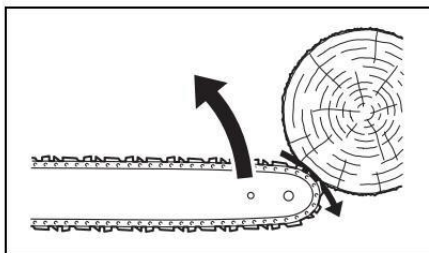

Fig 1
- In some cases, tip contact may cause a lightning-fast reverse reaction, kicking the guide bar up and back toward the operator (this is called a rotational kickback). Pinching the saw chain along the top of the guide bar may push the guide bar rapidly back toward the operator (this is called a linear kickback) (Fig 1).